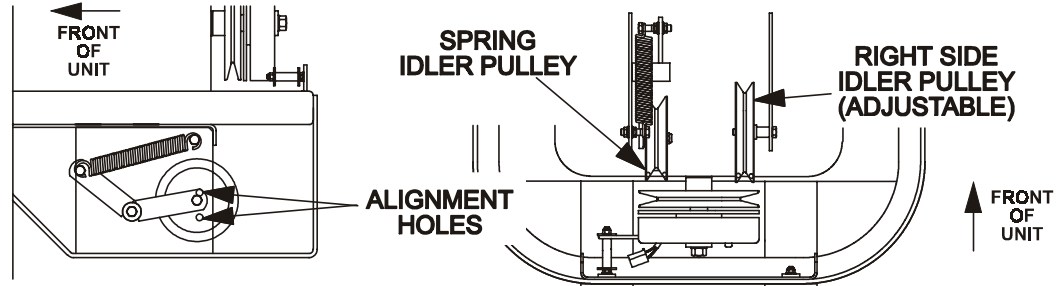

FIG. 9
- b) Check to make sure the bolt in the center of the spring loaded pulley, on left side engine deck support, is positioned in between the two alignment holes in the left support plate (See Fig 9). It is necessary to adjust the belt tension if any part of the bolthead is visible through the bottom alignment hole.